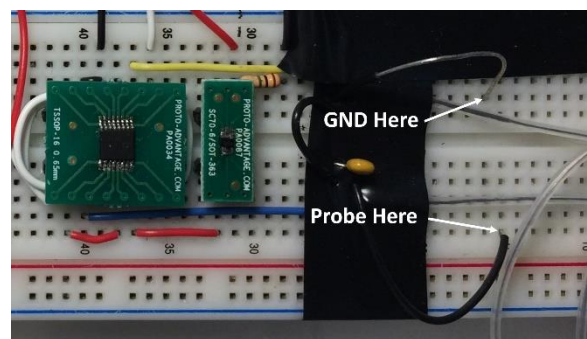

Figure 5: Test Probe Location
6. Connect the oscilloscope probe across the test resistor. Most oscilloscope probe ground terminals end with an alligator clip; there is a wire breakout specifically included for this (Figure 5).